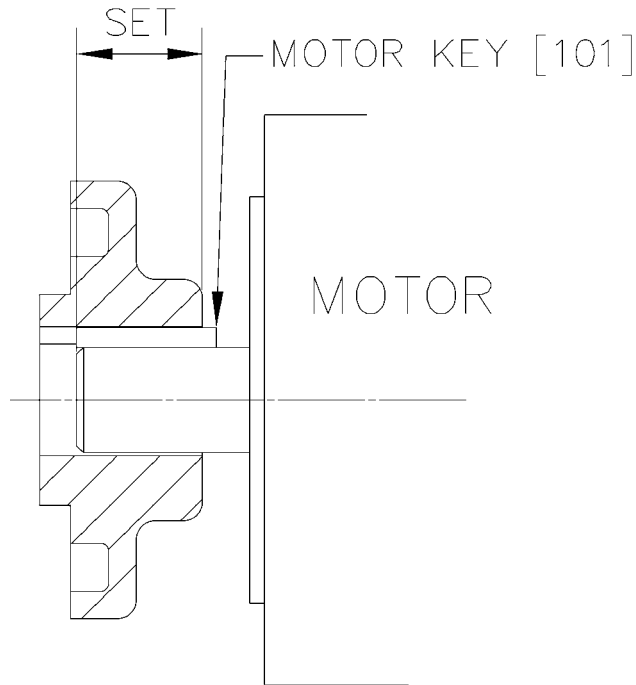

Figure 14. Motor Coupling Setting
3. Measure and mark the setting distance on the motor shaft as per Table 5, page 34. Install the flexible coupling hub with motor key [101] on the motor shaft as per the marking (See Table 5 or Table 6 and Figure 14). Tighten the hub setscrews to the torque value shown in the APPENDIX, Page 100. Turn the motor shaft by hand to check that the shaft rotates freely.